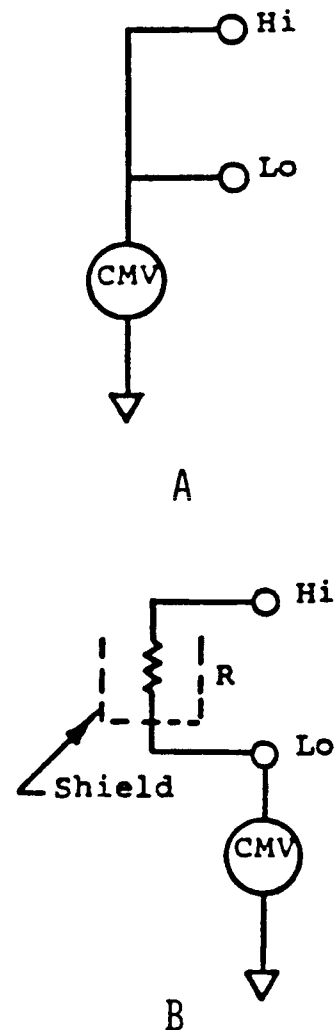

Figure 3-3. Common Mode Rejection
It can be measured by shorting the input leads together and applying a Common Mode Voltage to both input terminals, (figure 3-3 (A)), and reading the output of the meter. Should it be desired to measure CMR with a source resistance, use the circuit of figure 3-3 (B).